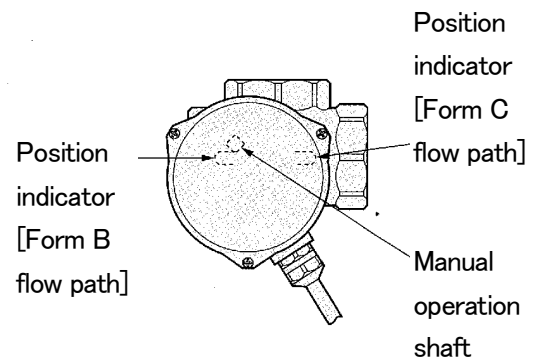

Fig.32 Valve Operating Positions
- ② Slowly rotate the manual operation shaft (5.7mm x 5.7mm) with a monkey wrench.
- ③ Fig.32 shows the top views of 2-way and horizontal 3-way ball valves driven by actuators. The fully open position [O], the fully closed position [S] and arrowed operating directions are indicated on the bottom of an actuator housing. Keep this in mind while reading the instructions given below.